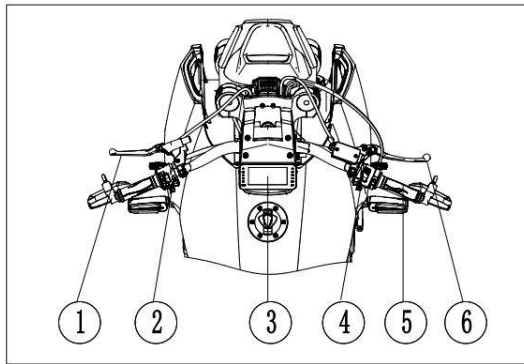

FIG 3
**3、 Front Body (Fig 3)**
- ① Clutch handle
- ② Left switch combination
- ③ Instrument
- ④ Right switch combination
- ⑤ Throttle handle sleeve
- ⑥ Front brake handle